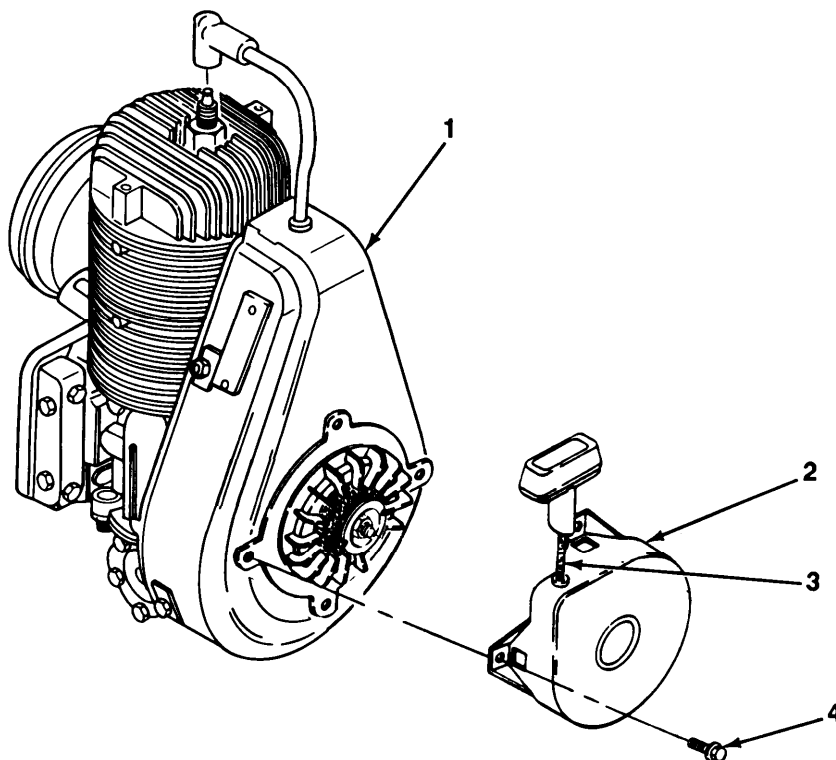

Figure 6-1. Engine Starter Replacement.
**Refer to Figure 6-1, Engine Starter Replacement, for step b.**
- b. Remove four screws (4) and engine starter (2) from fan housing (1).
**Refer to Figure 6-1, Engine Starter Replacement, for step c through e.**
c. install engine starter (2) on fan housing (1) with four screws (4). Tighten screws fingertight.